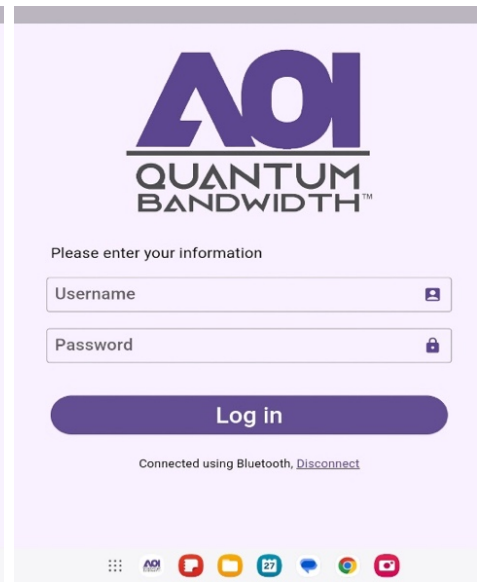

Figure A- 12: Login
- Log into the QuantumLink Local Mobile Application, using an accepted username and password. Figure A-12.